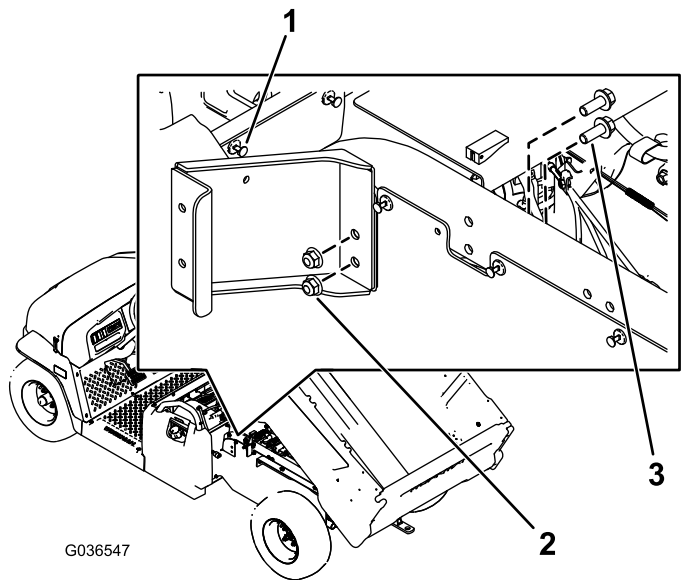

Figure 1
- A. Remove the rivet from left panel behind the rear seat base (Figure 1).
- B. Install the left loop bracket using 2 hex-flange bolts ($3/8 \times 1$ inch) and 2 nuts ($3/8$ inch) as shown in Figure 1.